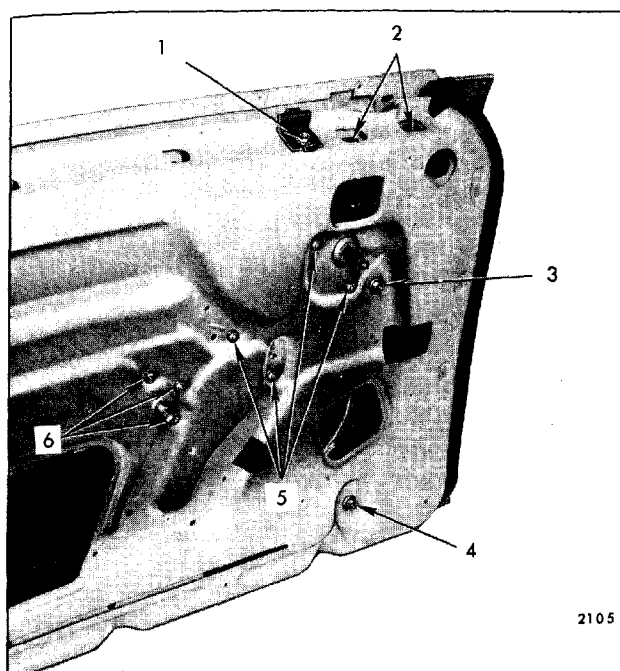

Fig. 7-94—Front Door Hardware—"E" Styles
- c. On 49487 Styles, remove regulator through large access hole (Fig. 7-94).
3. Remove center and lower adjusting stud nuts and upper two attaching bolts and remove guide assembly (see Fig. 7-94).